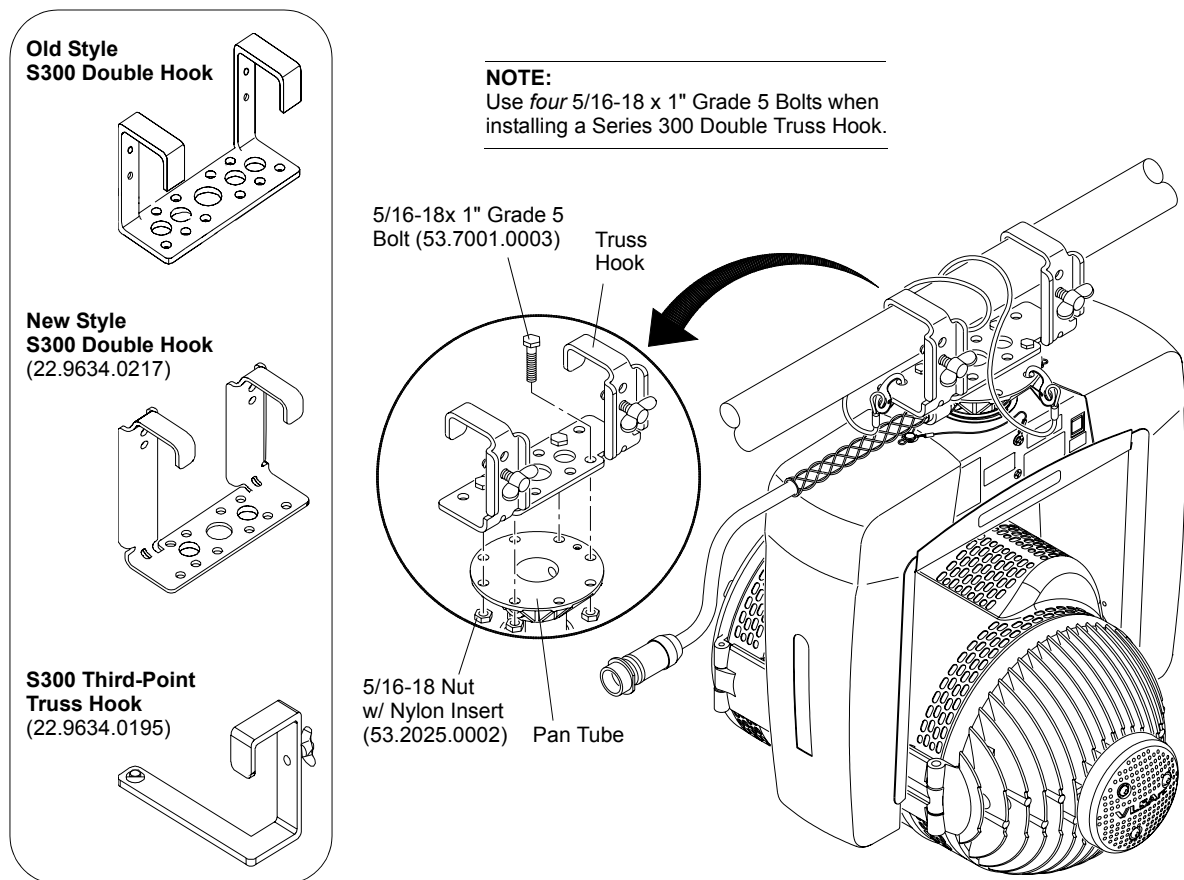

Figure 2-1: Attaching a Truss Hook
- Step 2. At pan tube, attach truss hook using four 5/16-18 x 1" bolts and 5/16-18 nuts (**Figure 2-1**).